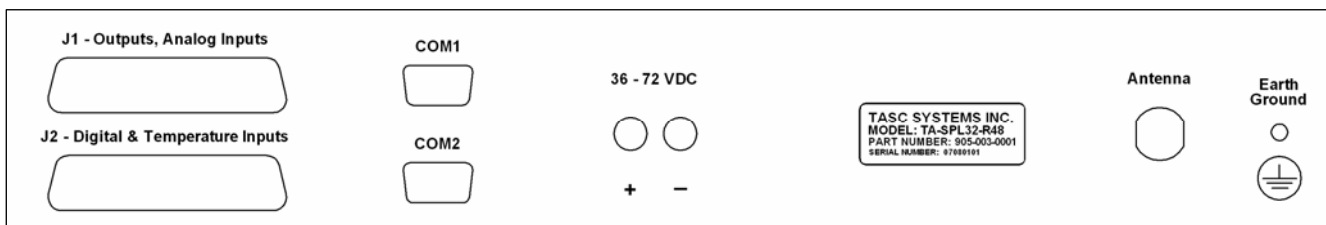

Figure 2 – TA-SPL32-R48 Back Panel
1. Attach an antenna to the antenna connector as shown in figure 2.